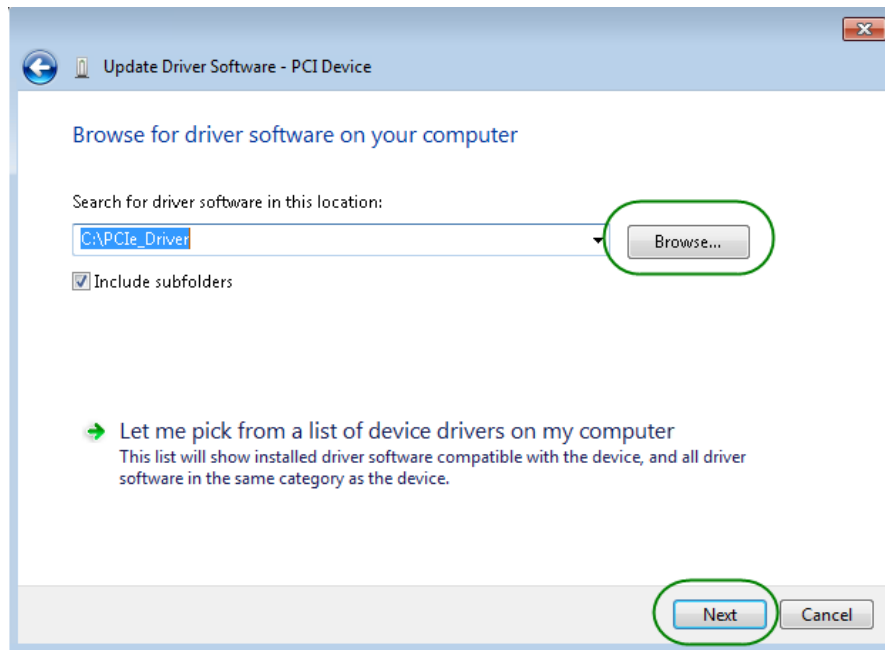

Figure 5-6 Browse for driver software on your computer
10. In the Browse for driver software on your computer dialog, click the Browse button to specify the folder where altera_pcie_win_driver.inf is located, as shown in **Figure 5-6**. Click the Next button